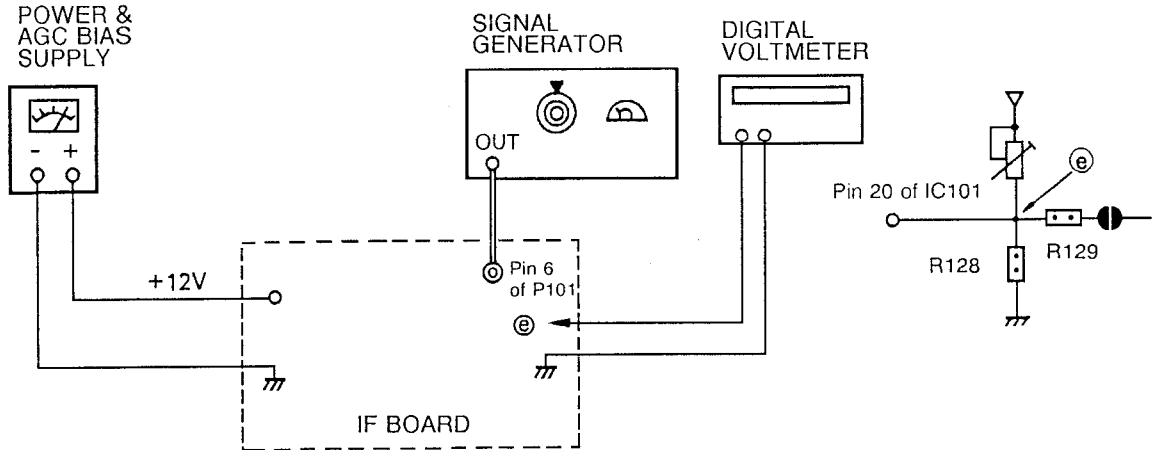

Figure 6. AFC Alignment
- GENERAL ..... Refer to figure 6 for test equipment connection.
3. Supply +12 volts to the IF Board. (See figure 6.)
- DVM ..... Connect to the resistor R128 (⊕ in figure 6) and ground.